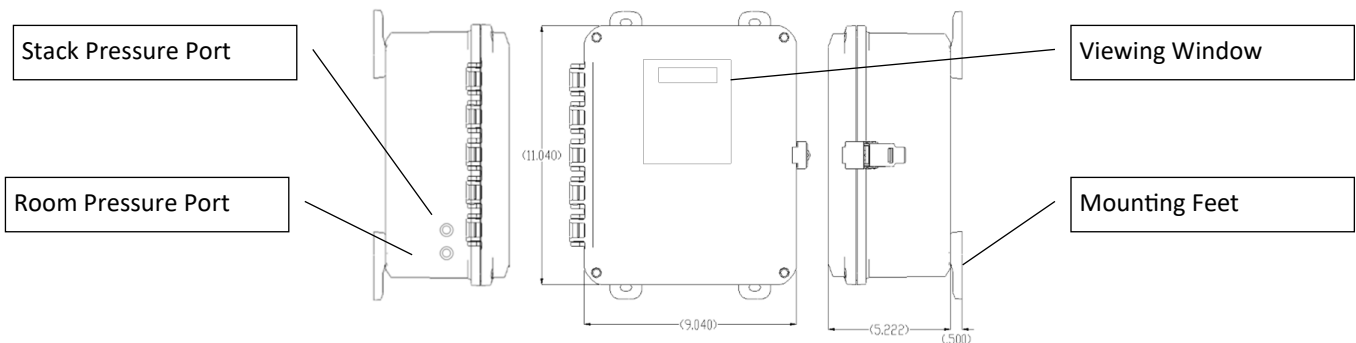

FIGURE 22
- When possible, a single “accessible” location is preferred for access to the Meridian control panel as well as the gas valve control box (E-VK (N/P) for the Isoflames linear burner. With mounting feet installed the Meridian Control Panel measures approximately 9-1/2” (W) x 12” (T) as shown in **(Figure 22)**. The gas valve control valve box measures approximately 12” (W) x 12” (T) x 4”(D). The gas valve control box installation will be covered in section “Gas Line & Valve Box Installation”.